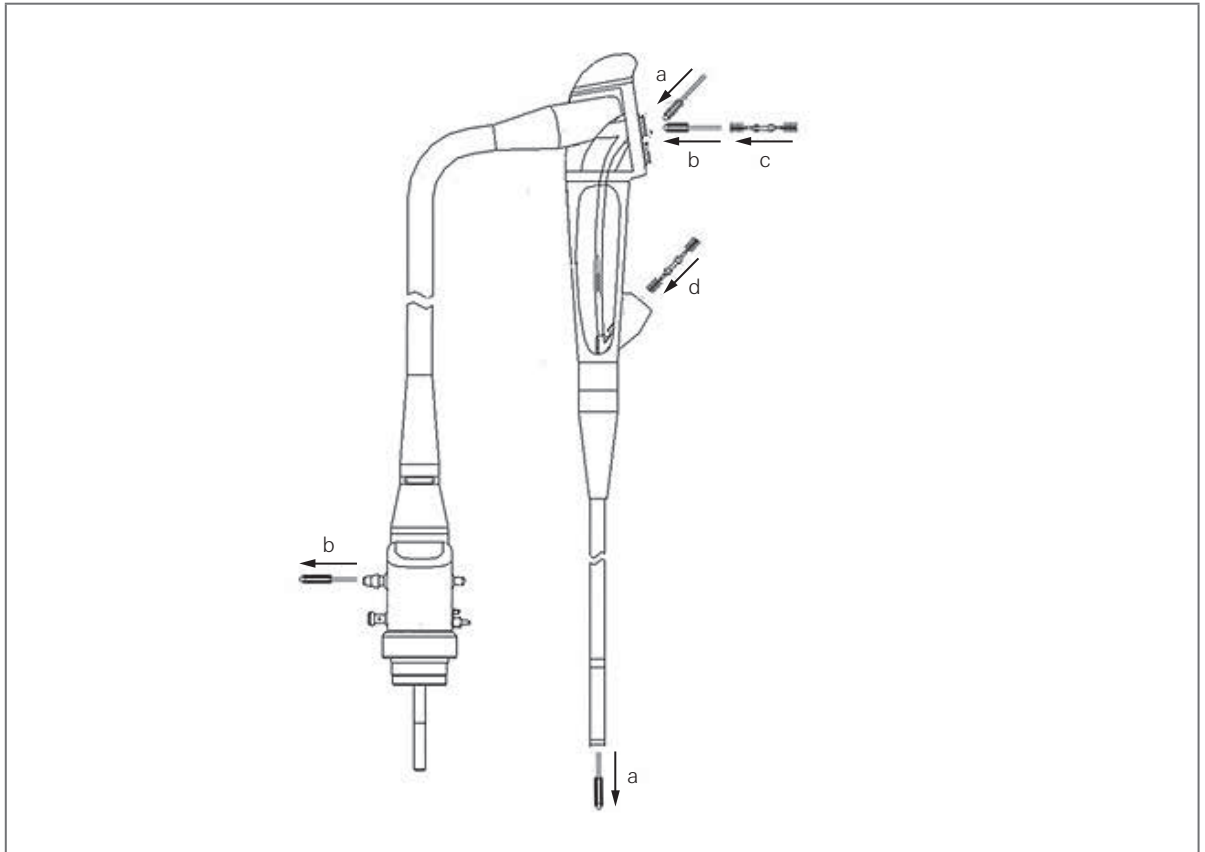

Figure 5.2
3. According to the following steps, brush the suction channel, suction cylinder, instrument channel port, air/water valve, suction valve, and biopsy valve (as shown in Figure 5.2):